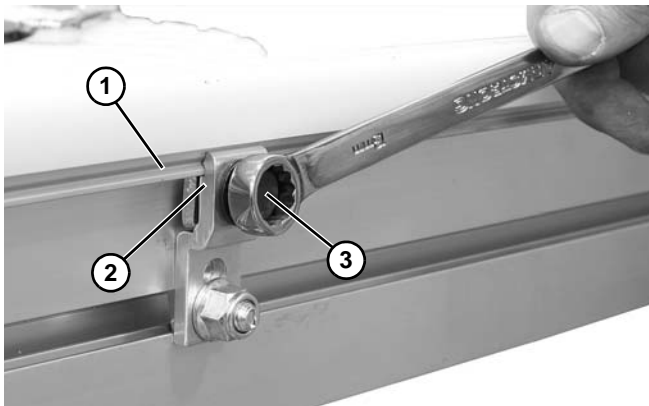

Figure 78
- Attach guiding (**Figure 78, item 1**) to clip (**Figure 78, item 2**) and tighten screw (**Figure 78, item 3**).